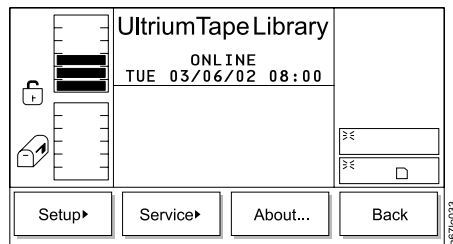

Figure 288. Main Menu (alternate screen)
1. From the Main Menu’s initial screen, press the button below the **More** softkey. The Main Menu’s alternate screen displays (see Figure 288).